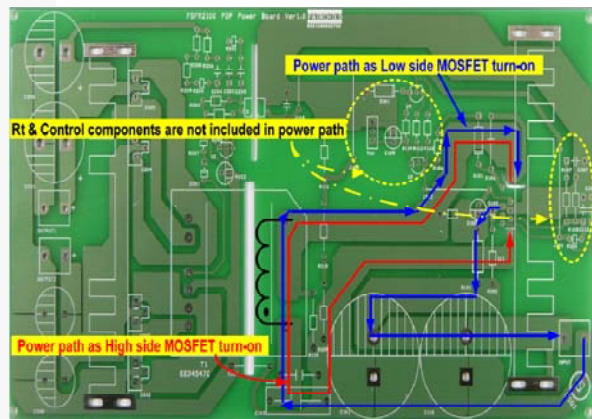

Figure 25. Example for Duty Balancing
**7. PCB Layout Guidelines:** Duty imbalance problems may occur due to the radiated noise from the main transformer, the inequality of the secondary side leakage inductances of main transformer, and so on. This is one of the reasons that the control components in the vicinity of  $R_T$  pin are enclosed by the primary current flow pattern on PCB layout. The direction of the magnetic field on the components caused by the primary current flow is changed when the high- and low-side MOSFET turn on by turns. The magnetic fields with opposite directions induce a current through, into, or out of the  $R_T$  pin, which makes the turn-on duration of each MOSFET different. It is strongly recommended to separate the control components in the vicinity of  $R_T$  pin from the primary current flow pattern on PCB layout. Figure 25 shows an example for the duty-balanced case.